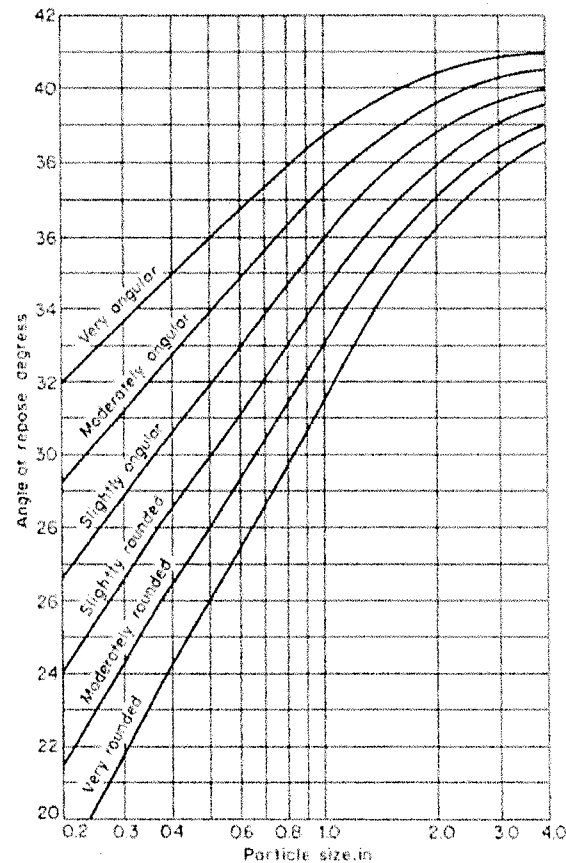

Figure Q2.2: Variation of the angle of repose with particle size
- iii. Using Figure Q2.2, determine the angle of repose for the type of soil associated with the proposed canal.